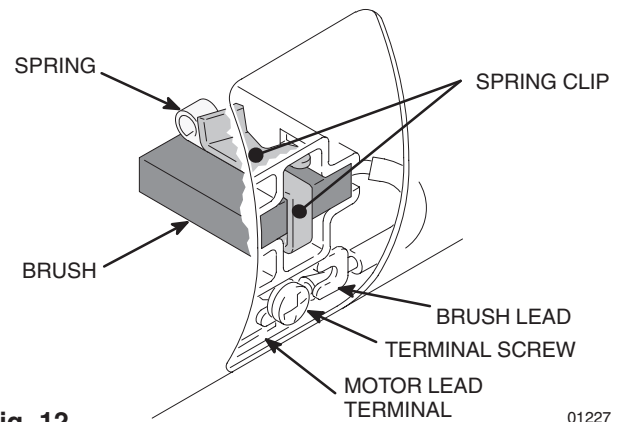

Fig. 12 01227
4. Loosen brush lead terminal screw. Pull brush lead away, leaving motor lead terminal in place. Remove brush and spring. See Fig. 12.
7. Slide terminal under terminal screw washer and tighten screw. Be sure motor lead is still connected at screw. See Fig. 12.